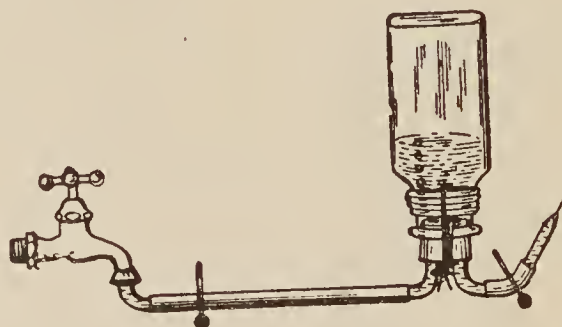
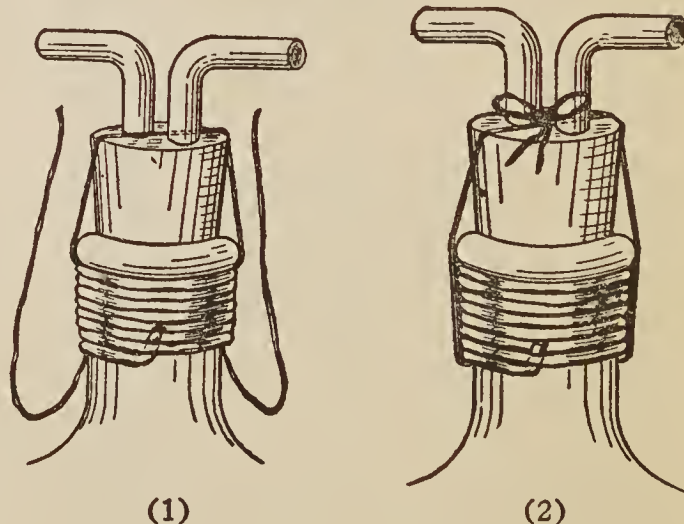

Fig. 17.
Fig. 18.—Showing How to Make a Stopper Secure by Means of Cord and Looped Rubber Bands.
Arrange the apparatus as shown in Fig. 16. It is necessary to fasten the stopper in the bottle very securely. Do this as follows: Insert two elbows into the two-hole rubber stopper and twist the stopper firmly into the neck of the bottle. Next loop three strong rubber bands together as shown in Fig. 17, pass a stout cord over the stopper and wind the **stretched** rubber bands around the neck and cord. Now slip the last end of the bands under the last winding to hold it, (1) Fig. 18, then tie the ends of the cord up over the stopper, (2) Fig. 18, and you will find that the stopper is very secure.